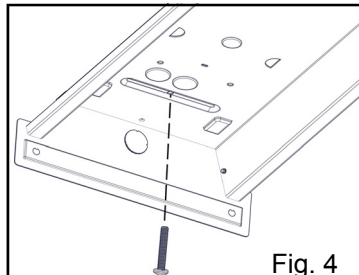

Fig. 4
8. Mount the luminaire to the mounting surface using wood screws or appropriate hardware (by others). If no joists are present, use toggle bolts (by others). Fig.4